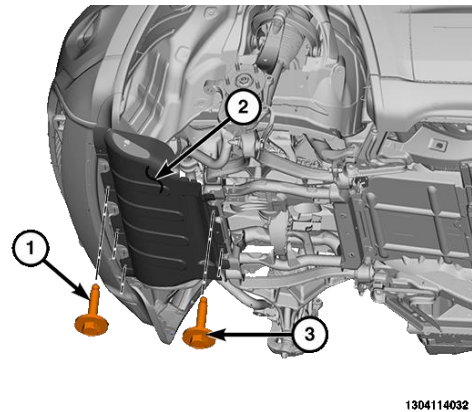

Figure 4 – Front Skid Plate
10. Remove the front skid plate (2) on standard models by removing the front (1) and rear (3) bolts, then removing the front skid plate (Figure 4).